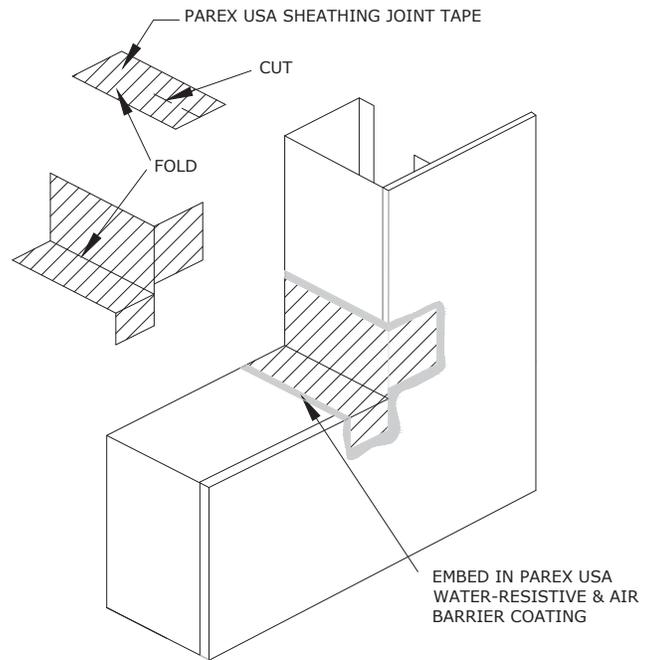

Fig. 4.1
1. Cut Sheathing Joint tape in a length to wrap all the way into the rough opening and onto the sheathing face a minimum of 2 inches. Cut and embed as shown in (Fig 4.1).